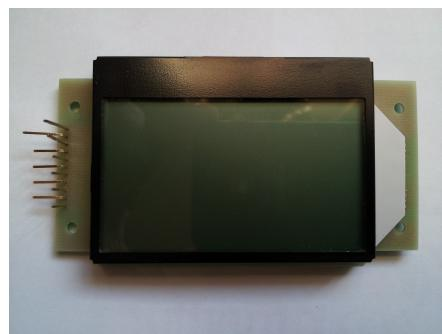

Figure 1.2: ST7565 GLCD
2. An ST7565 128x64 graphical liquid crystal display (GLCD) (Figure 1.2). The model shown is available from Core Electronics and Adafruit. Note that eleven 0.1" (2.54mm) male header pins must be soldered to the board if using this particular model; however it is simple through-hole soldering.